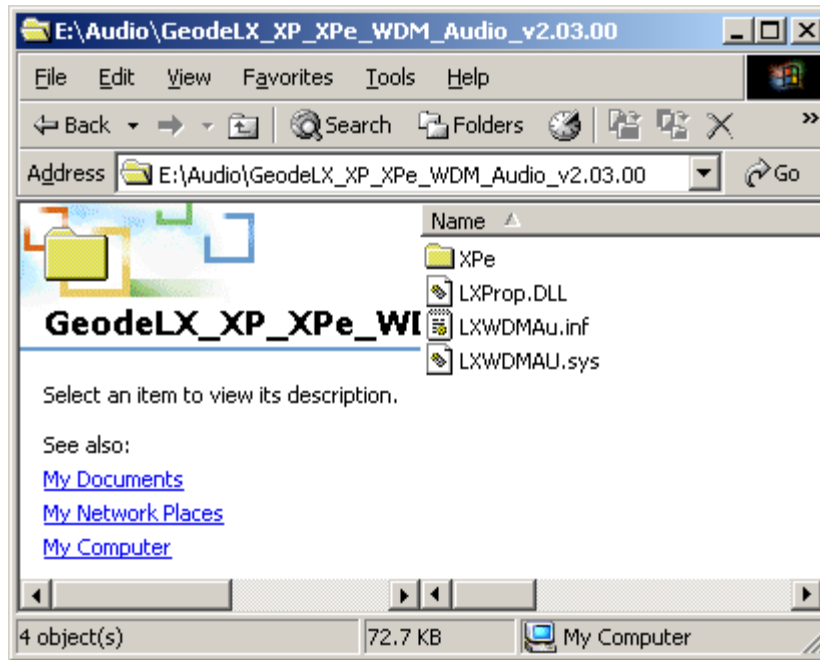

Figure 7-19: Location Browsing Window
Step 8: Select "X:\Audio\GeodeLX_XP_XPe_WDM_Audio_v2.03.00" directory in the location browsing window, where "X:\" is the system CD drive (Figure 7-19).